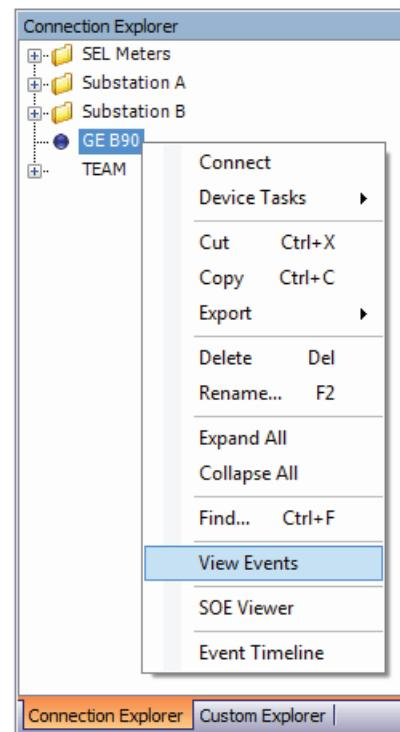

Figure 58 View Events
- Step 11. To view the events, right-click on the device in the Connection Explorer and select **View Events**, as shown in *Figure 58*.